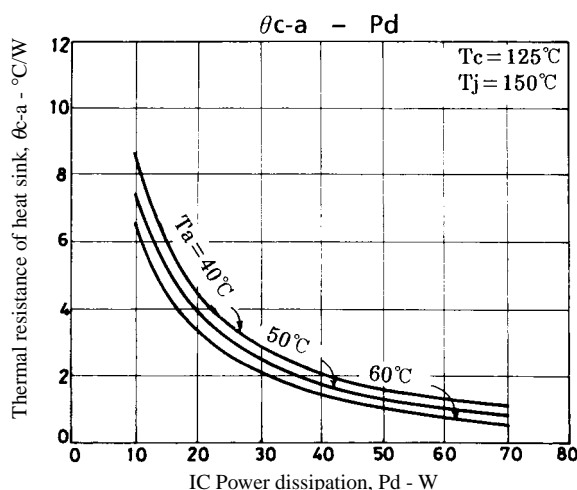

Figure 3. STK4152II θc-a – Pd
Figure 3 shows the relation between Pd and θc-a given from (1) and (3) with Ta as a parameter.
The thermal resistance of a heat sink is obtained from Figure 3.